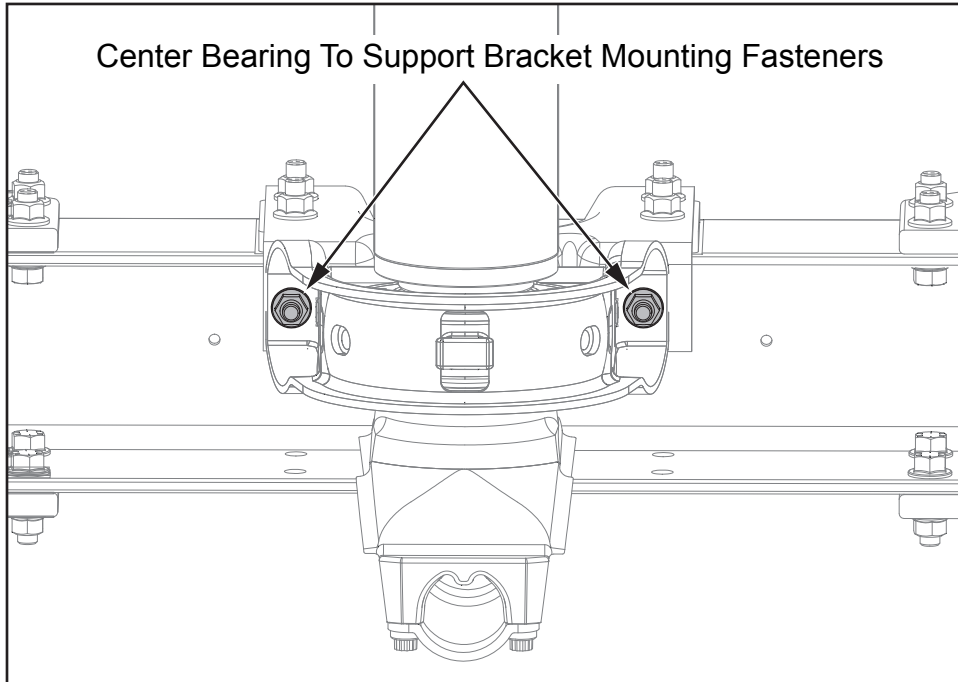

Figure 2, ACX vehicles with aluminum cross members
4. For ACX vehicles equipped with aluminum cross members. Locate the 2 center bearing to support bracket mounting fasteners and tighten to 59 Lbs-ft of torque (see *Figure 2*).